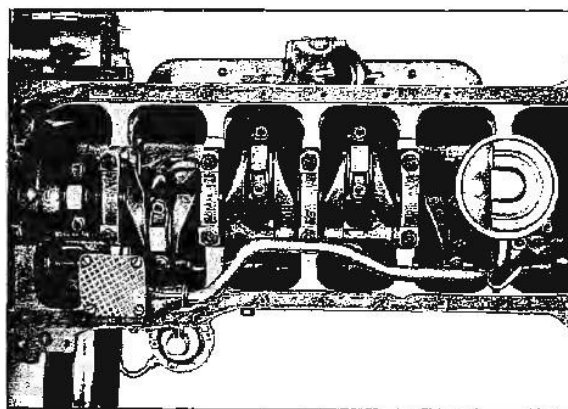

Fig. 6-48 Oil Pump Installed
2. Remove two flange mounting bolts and nut from elongated number 6 main bearing cap bolt and remove pump and screen as an assembly (Fig. 6-48).